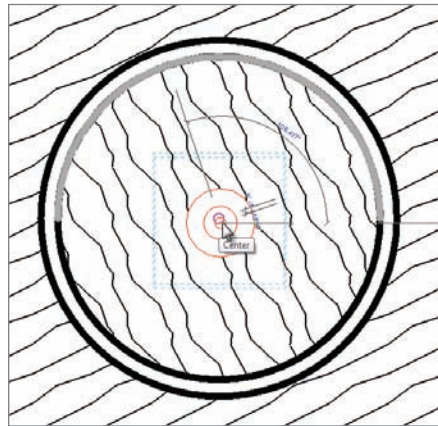

FIGURE 9.35 Moving the fixture to the correct location
5. Place the light approximately as shown in Figure 9.35.
6. Move the light to the center of the radial soffit. This time, you can use snaps (see Figure 9.35).